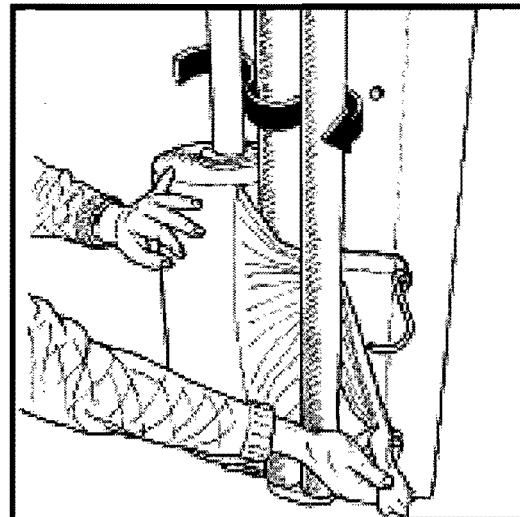

Fig.: 6-2
- When loading a plastic roll, first ensure the top cone (2) is pushed up to latched position, then push back the Stretch rollers (3) until held in position by locking catch (4).
- Place the Roll on the Bottom Cone and release the top latch (1). Beware of Fingers!
- Pull the film between the rollers on the pre-stretcher in the direction of the arrow. (See fig. 6-2). (See also the sticker on the dispenser).